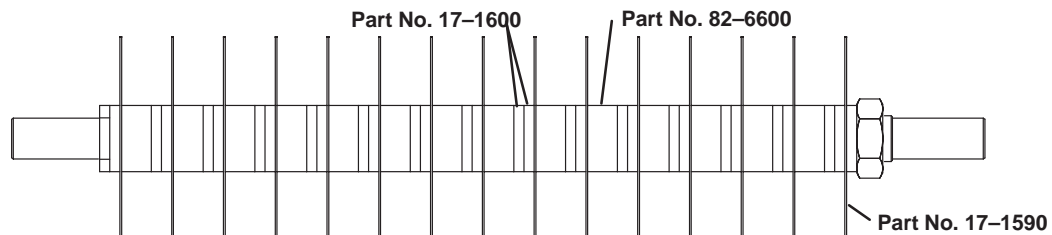

Figure 18
1-1/4" spacing, Kit Part No. 82-7002 – Includes (28) 1/4" Thick Spacers (part no.17-1600) (Fig. 18).